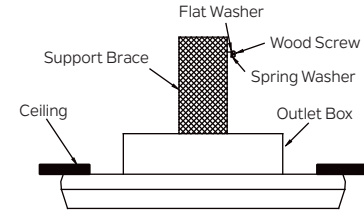

Fig. 14
Step 1. Drive a wood screw and washers into the side of the brace that holds the outlet box. Leave 3mm (1/8") of space between the support brace and the washer. (Fig. 14)